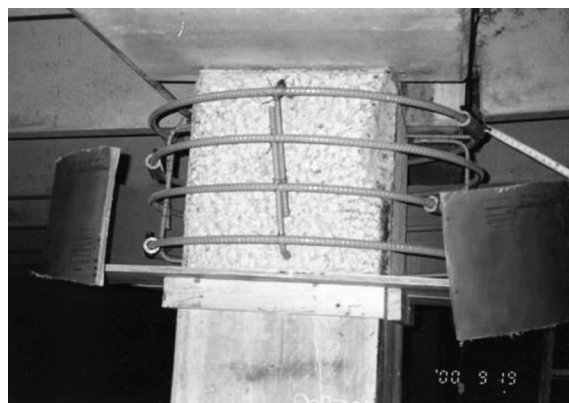

Fig. 4—Section enlargement with jackets.
2. *Section enlargement*—Section enlargement can be accomplished by using concrete, shotcrete, reinforced concrete, or mortar that is bonded to the concrete element (Fig. 3). For example, columns can be strengthened by using jackets (Fig. 4 and 5), beams by increasing the section, shear walls by increasing the wall thickness, and ribbed slabs by filling the open spaces between the ribs. The columns in Fig. 4 and 5 were strengthened to increase the vertical shear capacity of the beam seat, and not the column shear associated with moment interaction;